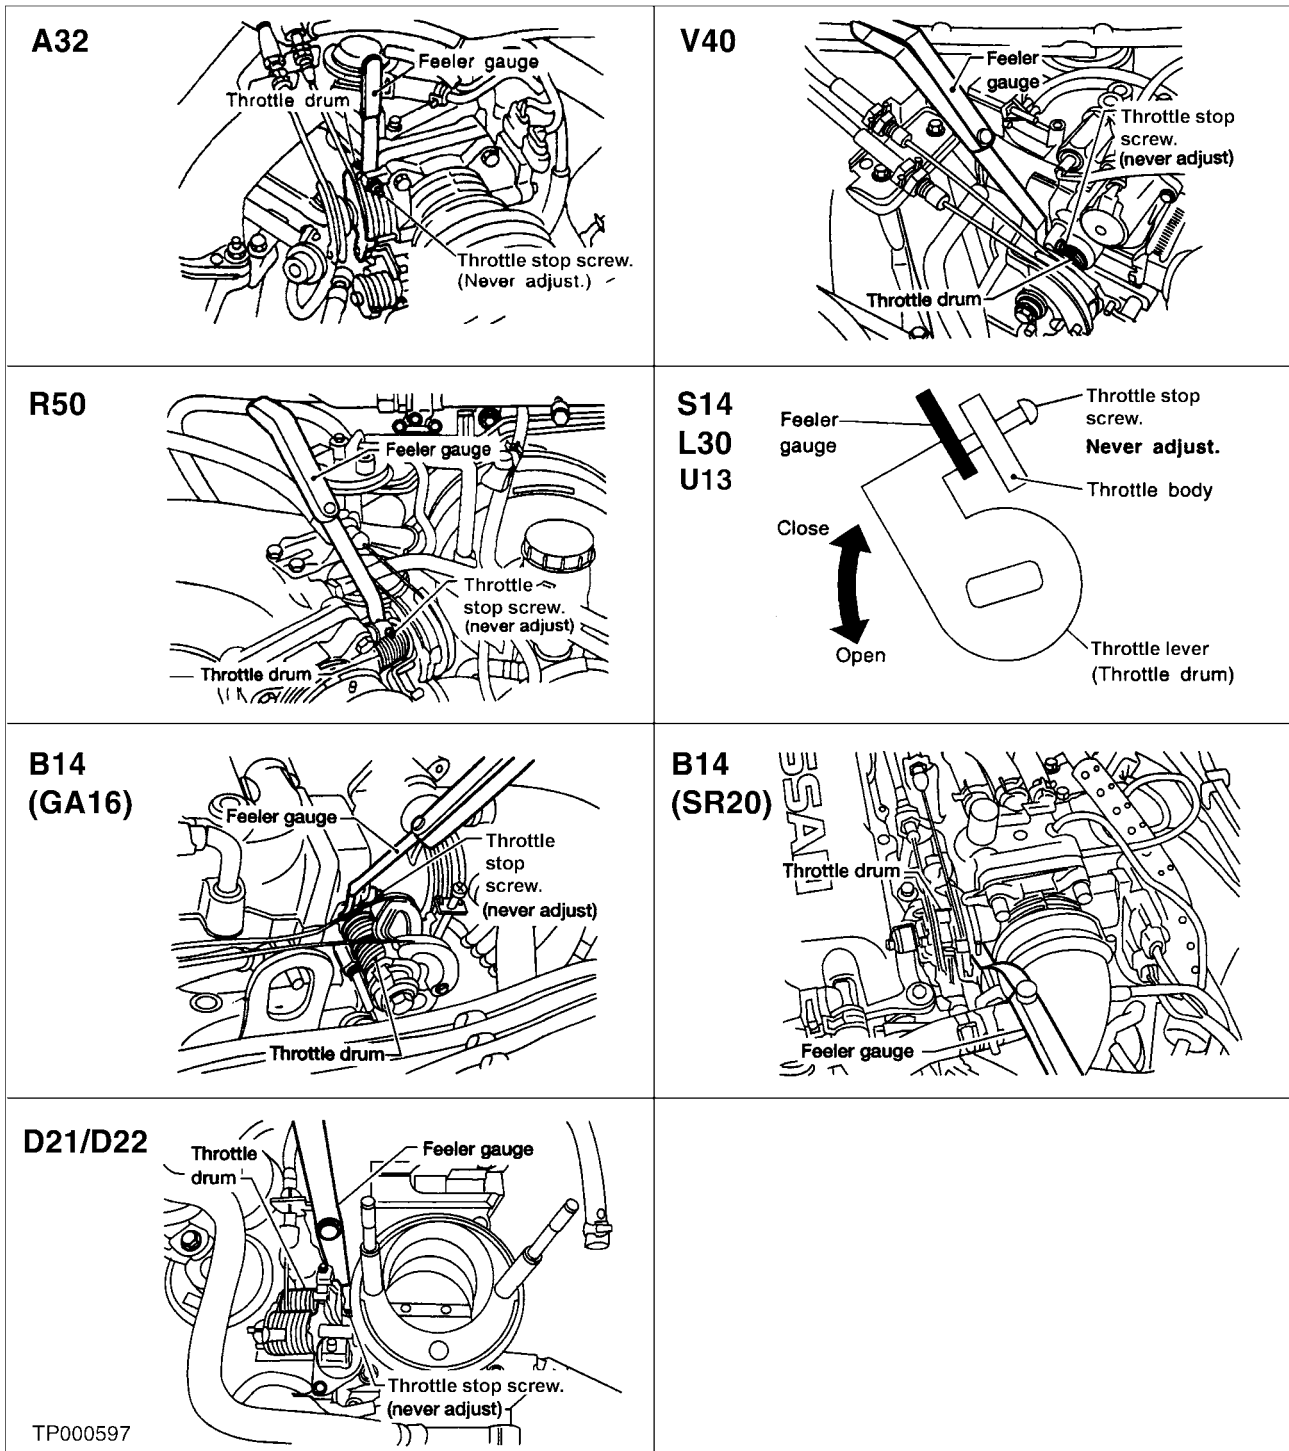

Figure 3
- Refer to Figure 3 below for the specific vehicle you are working on.
Insert the thicker feeler gauge "B" (from Chart 1 on page 2) between the throttle adjustment screw and the throttle drum stop (see Figure 3). The CTPS should NOT have continuity. (ohmmeter reads "OL").